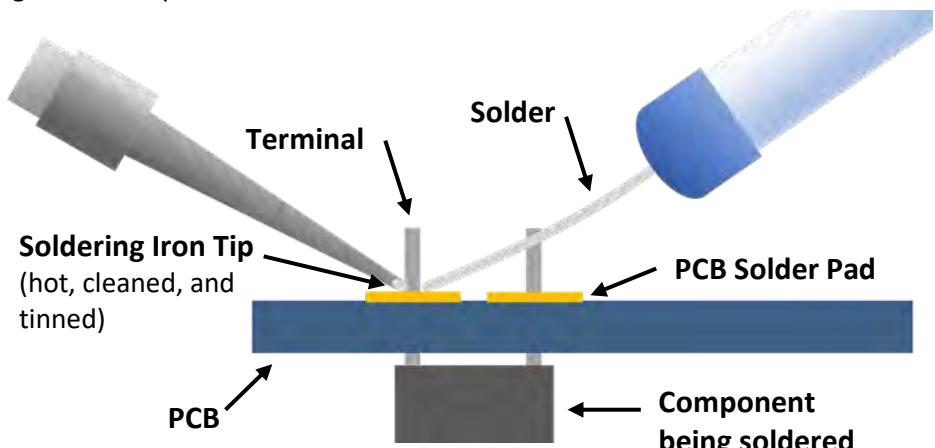

Figure 10
- From the opposite side of the terminal, hold the solder at a low angle to the solder pad and make sure it is touching the pad and terminal (not the soldering iron tip). Holding the solder at a low angle to the pad will prevent solder going through the hole and onto the other side of the board. (Figure 10)